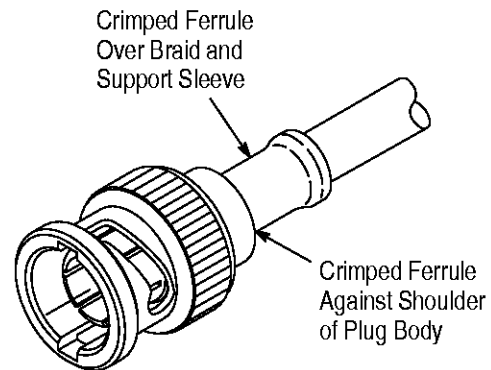

Figure 5
6. Slide ferrule over braid and support sleeve until the ferrule is positioned against the shoulder of the plug body. Crimp ferrule using the recommended tooling. See Figure 5.